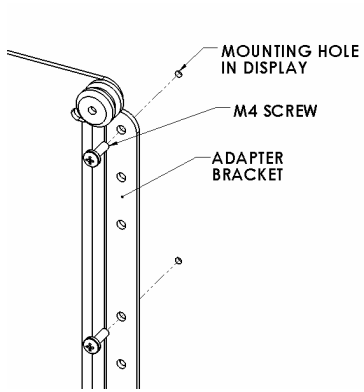
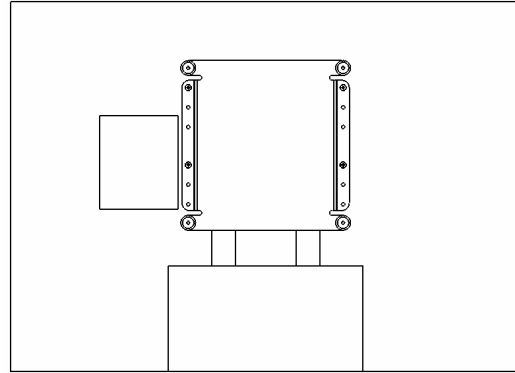

Figure 6
Figure 7
3. **Bracket Installation:** Choose the mounting holes that best center the bracket on the back of the display and attach using the M4 screws. (see Figure 6 & Figure 7).